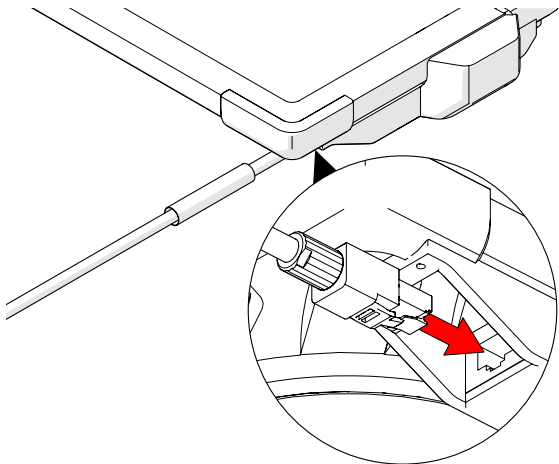

Fig. 32 - Connect Ethernet cable to the Ethernet connection of the tablet
5. The Ethernet connector of the Ethernet cable plugs into the tablet (Fig. 32).